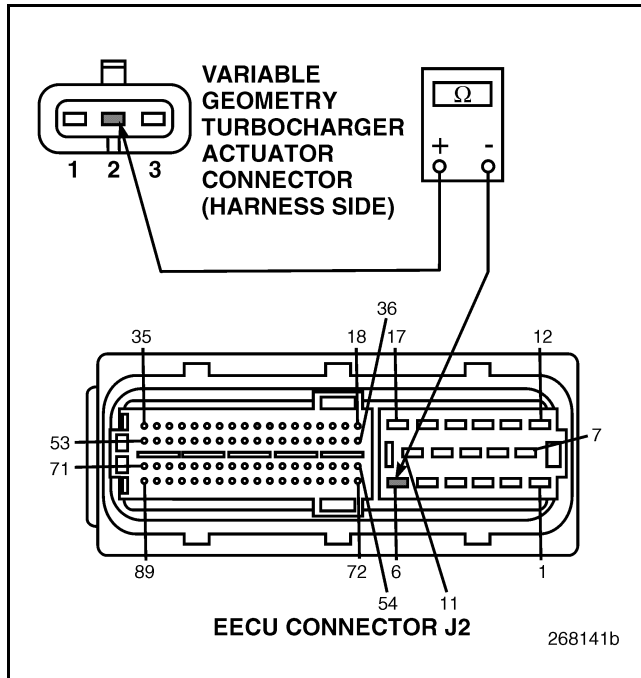

Figure 734
4. Check for continuity between EECU harness connector J2, pin 6 and the VTG Actuator harness connector pin 2 (see Figure 734).